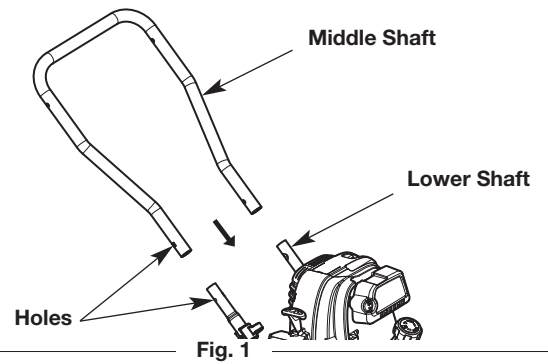

Fig. 1
1. Slide the middle shaft onto the lower shafts (Fig. 1). Keep the throttle cable and wire assembly to the front of the unit.
2. Align the holes on the middle shaft with the holes on the lower shafts (Fig. 1).